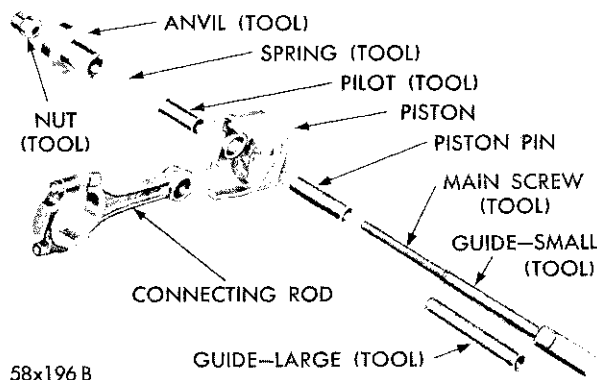

Fig. 43—Tool Arrangement for Installing Piston Pin
(1) Check the piston pin fit in the piston. It should be a sliding fit in the piston at 70 degrees F. Piston pins are supplied in standard sizes only.
(2) Lubricate piston pin holes in the piston and connecting rod.
(3) Arrange the Tool C-3624 parts for installation of piston pin, as shown in Figure 43.
(4) Install the spring inside the pilot and install the spring and pilot in the anvil. Install the piston pin over main screw.
(5) Place piston, with “front” up, over pilot so that the pilot extends through the piston pin hole.
(6) Position connecting rod over the pilot which extends through the piston hole.
(7) Install the main screw and piston pin in the piston, as shown in Figure 43.